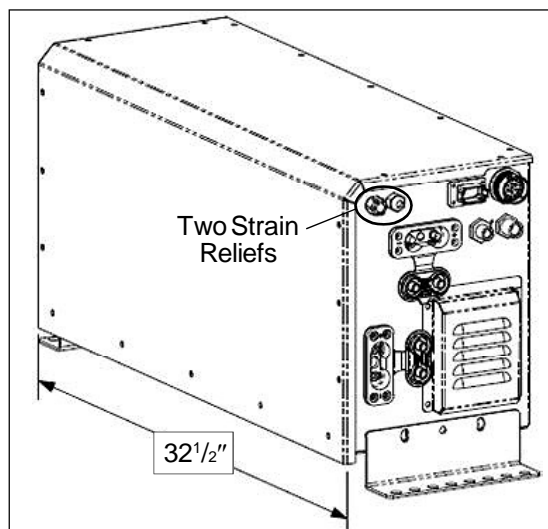

Figure 3 — JEMS 6 Unit
- JEMS 6 — Altec P/N 990263141 and ZeroRPM p/n 7700-00008 (refer to Figure 3)